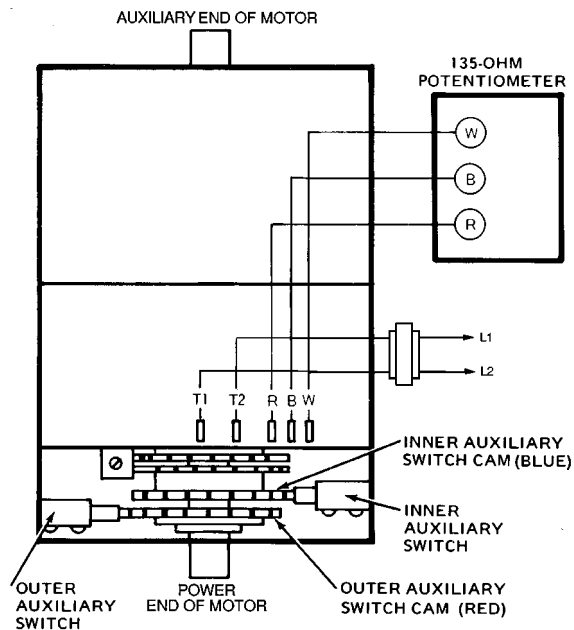

Fig. 39 — Auxiliary Switch Stroke Adjustment
2. Disconnect controller from motor. Connect red, white, and blue terminals on the 135 ohm manual potentiometer to corresponding red, white, and blue terminals on the motor. Connect 24-vac power to Terminals 1 and 2. See Fig. 39.